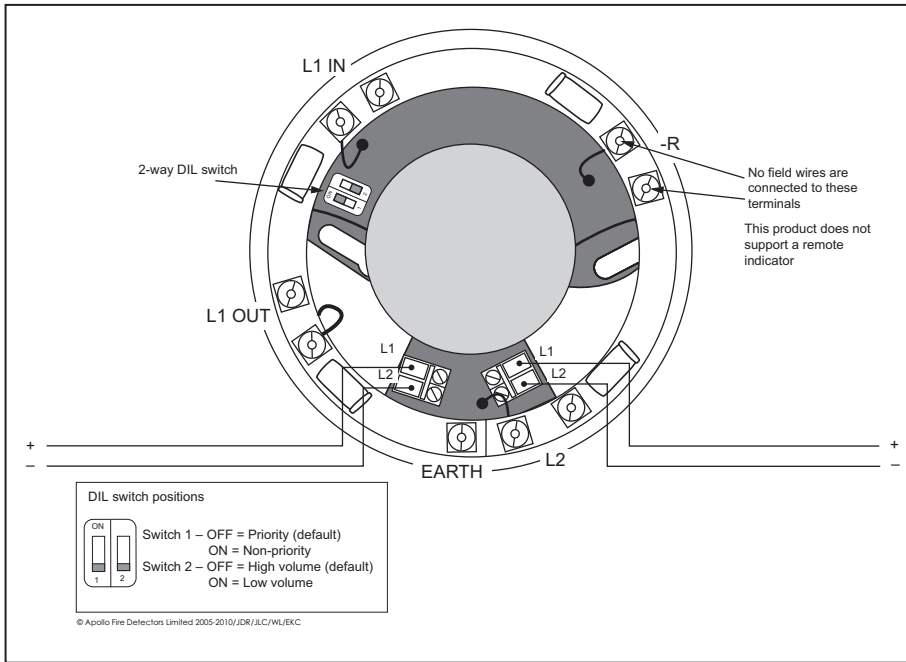

Fig 1 Sounder/Sounder Beacon Base
3. The priority/non-priority feature and volume are set by means of the DIL switch, see **Fig 1**.